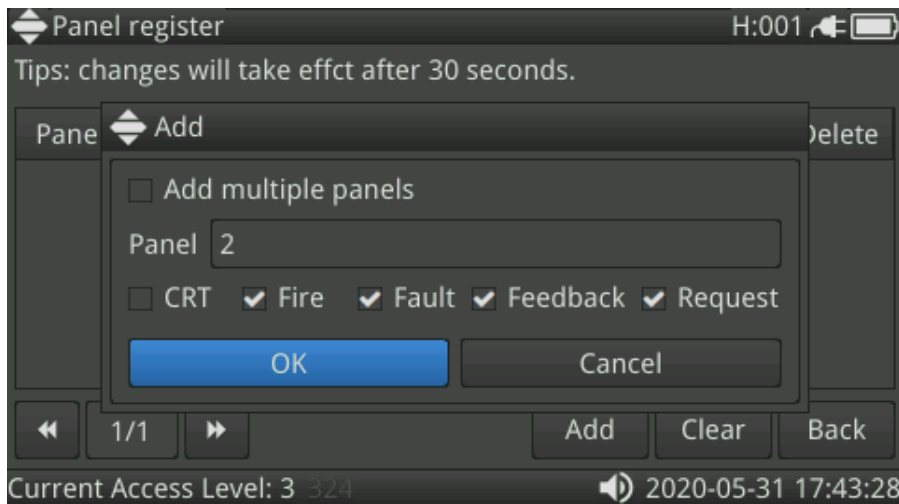

Figure 4-14 Add host interface
- ✧ Press the **TAB** key, let the cursor jumps to the **Add** button, then press the **OK** key, the Add screen will pop up, as shown in Figure 4-14.